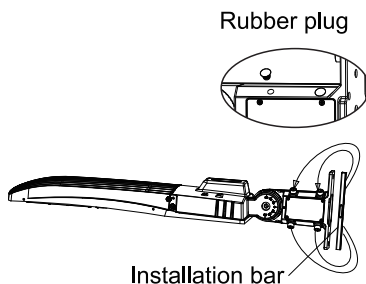

Figure 16
Step 1: Remove the four bolts from A&D bracket, remove the four rubber plugs from installation bar, put the four rubber plugs on the place where the four bolts were previously placed on the bracket for waterproof purpose (Figure 16)